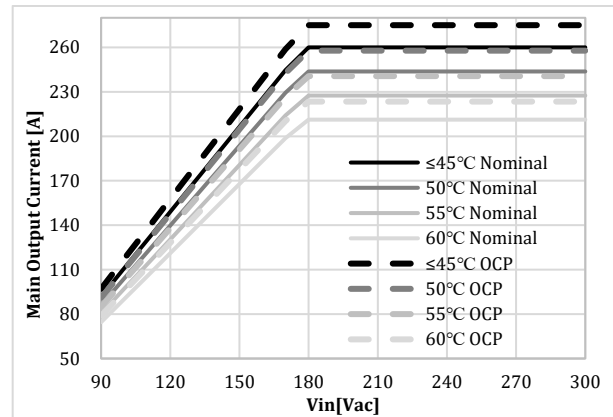

Figure 20. Derating on  $V_1$  vs  $T_a$  &  $V_{in}$
4) See Figure 20 for linear derating  $> 45^\circ\text{C}$
The main output current limitation level  $I_{V1 \text{ lim}}$  will decrease if the ambient (inlet) temperature increases beyond 45 °C (see *Figure 20*).